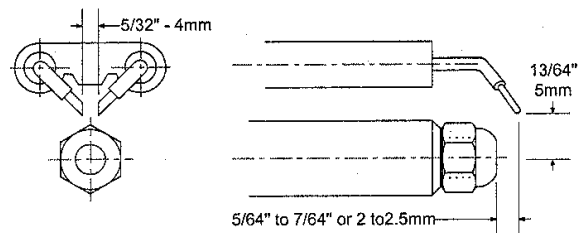

Figure 7: Riello Electrode Setting
- iv. Replace adapter, with nozzle installed, into drawer assembly and secure with screw (1).
- c. **Inspect and measure burner electrodes.** Refer to Figure 7 for the proper electrode settings.